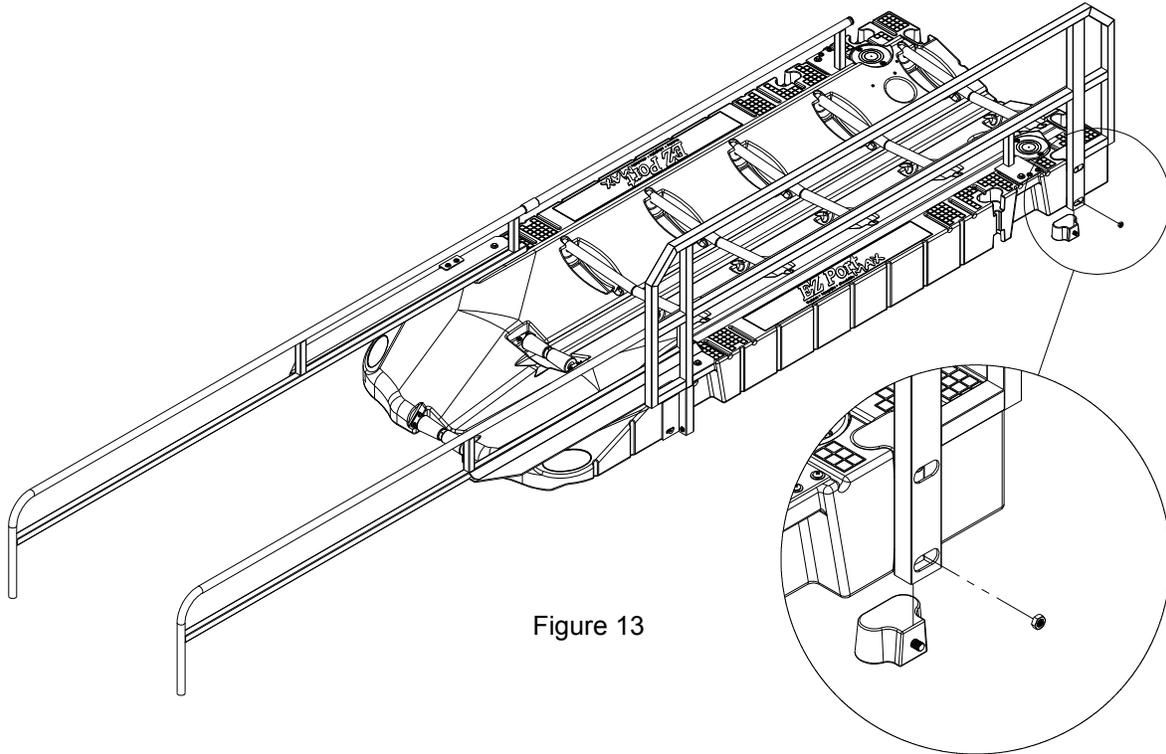

Figure 13
- Install male hardware connector in bottom pocket and secure with 5/8-11 nut as shown in Figure 13.